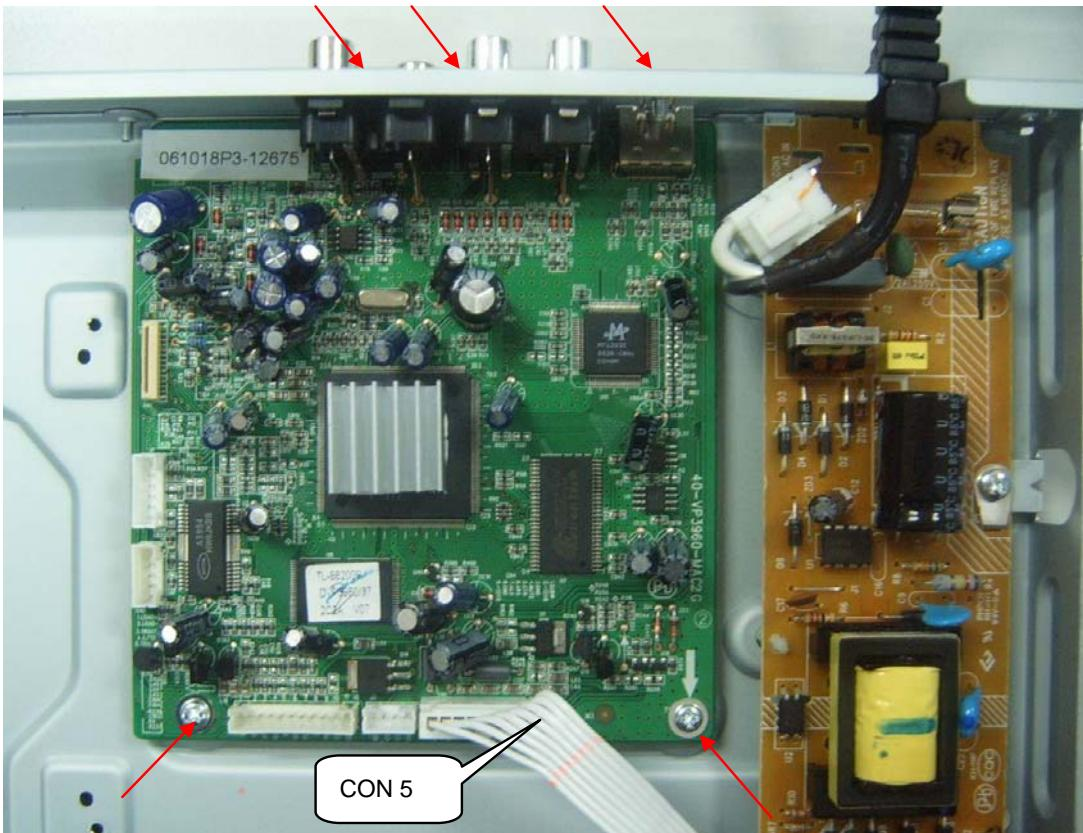

Figure 8
**Step6:** Dismantling Main Board, first disconnect the 1 connector, and then remove 5 screws to dismantle Main board. (Figure 8)